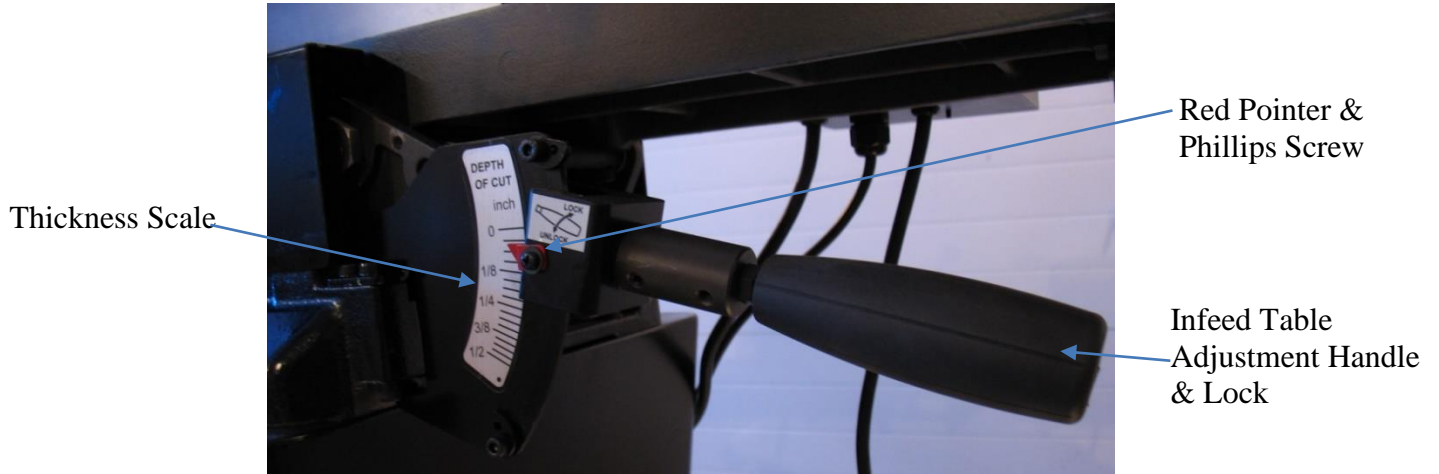

Figure 25: Thickness Scale
1. Loosen the Infeed Table locking handle by rotating counterclockwise (Fig. 25).